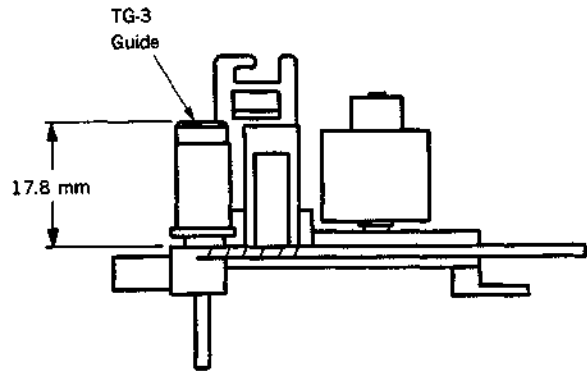

Fig. 2
- ① Clean the mounting shaft of the IP roller with cleaning fluid, then apply 1/3 of a drop of Sony oil.
- ② Install the TG-3 guide to the height shown in Fig. 2.